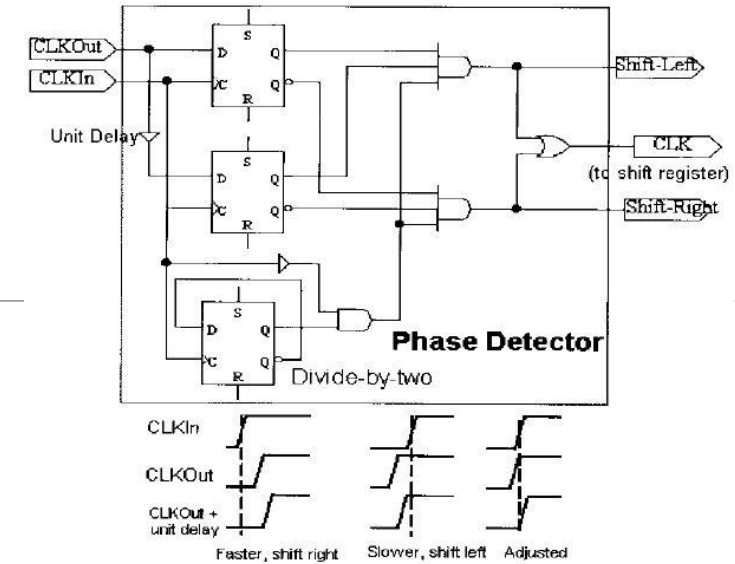

Figure 8: PD with delayed and clocked output [6]
- ❑ The PD topology shown in Figure 8 will only output once in two clock cycles to give enough time for the SR to adjust the delay.